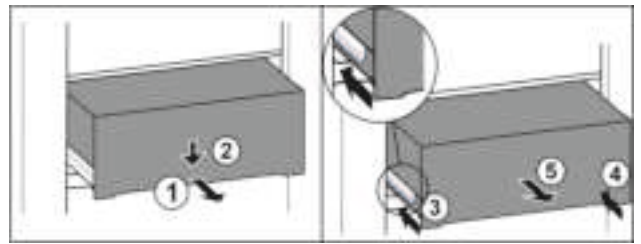

Fig. 90
- Pull out drawer half-way. Fig. 90 (1)
- Push the drawer down at the front. Fig. 90 (2)
- Push the left rail in by about 2 cm. Fig. 90 (3)
- Push the right rail in by about 2 cm. Fig. 90 (4)
- Remove drawer to the front. Fig. 90 (5)